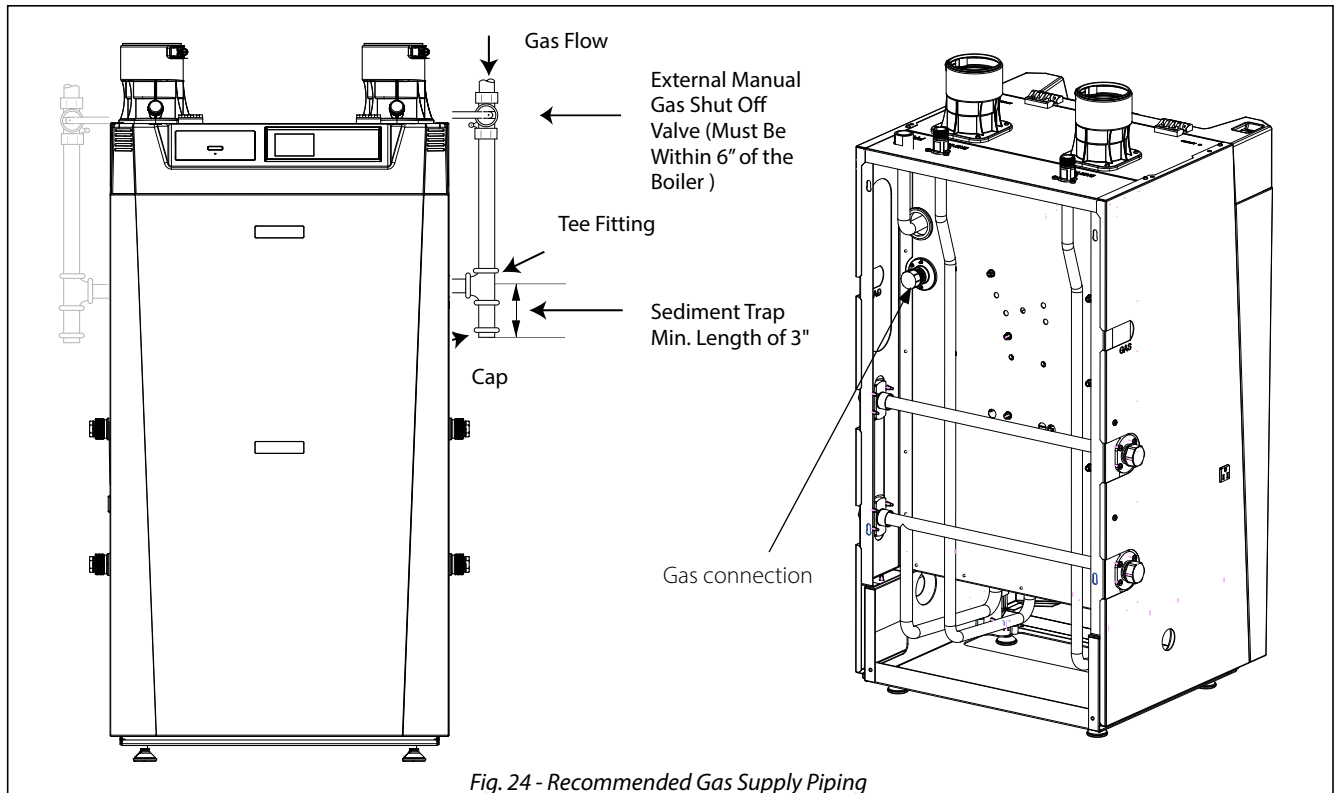

Fig. 24 - Recommended Gas Supply Piping
2. Install a manual shutoff valve in the gas supply piping as shown in *Fig. 24 above*. For installations in Canada, the installer must tag and identify the main shutoff valve.
3. Install a sediment trap (drip leg) on the gas supply line prior to connecting to the EXALT gas train as shown in *Fig. 24 above*.